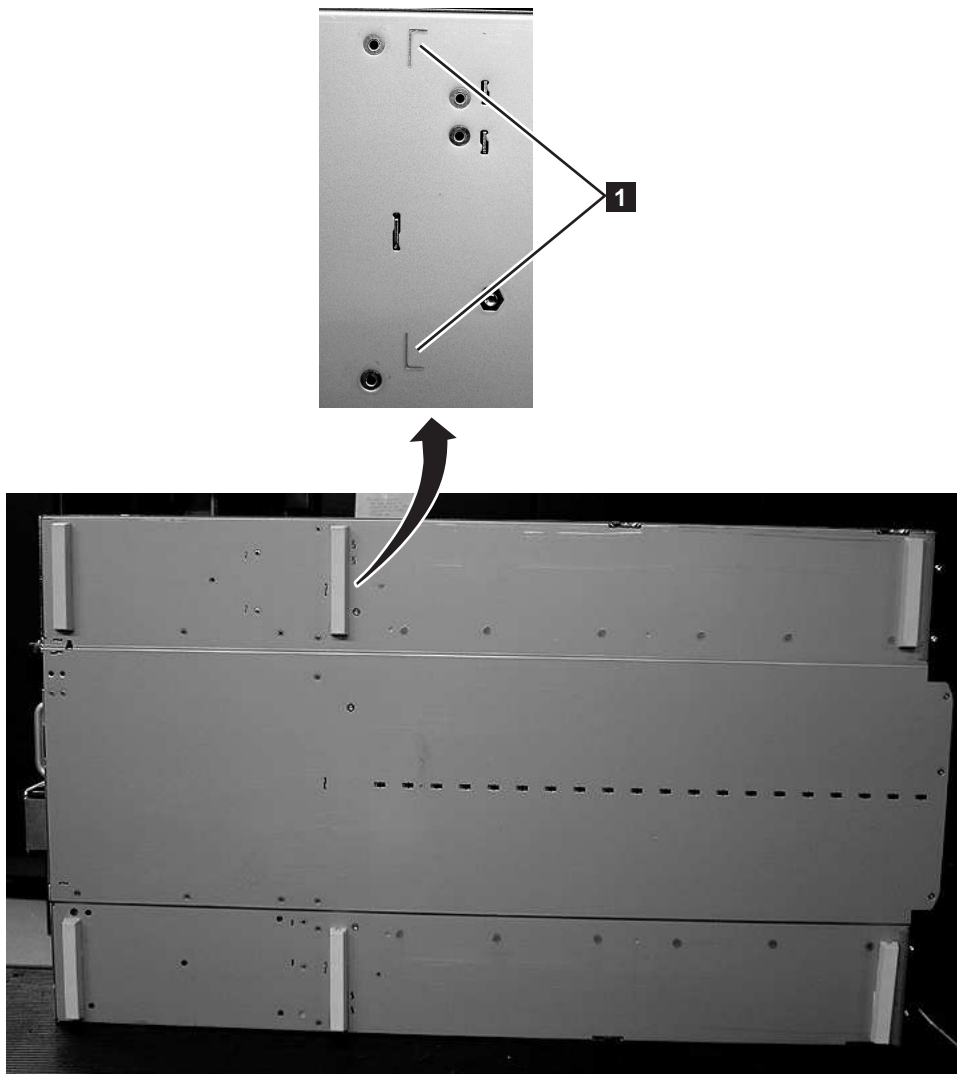

Figure 148. Foot pads installed on the bottom of the library enclosure
- 3) Install the foot pads on the bottom of the library enclosure by pressing each foot into one of the six areas (**1**) as shown in Figure 148.